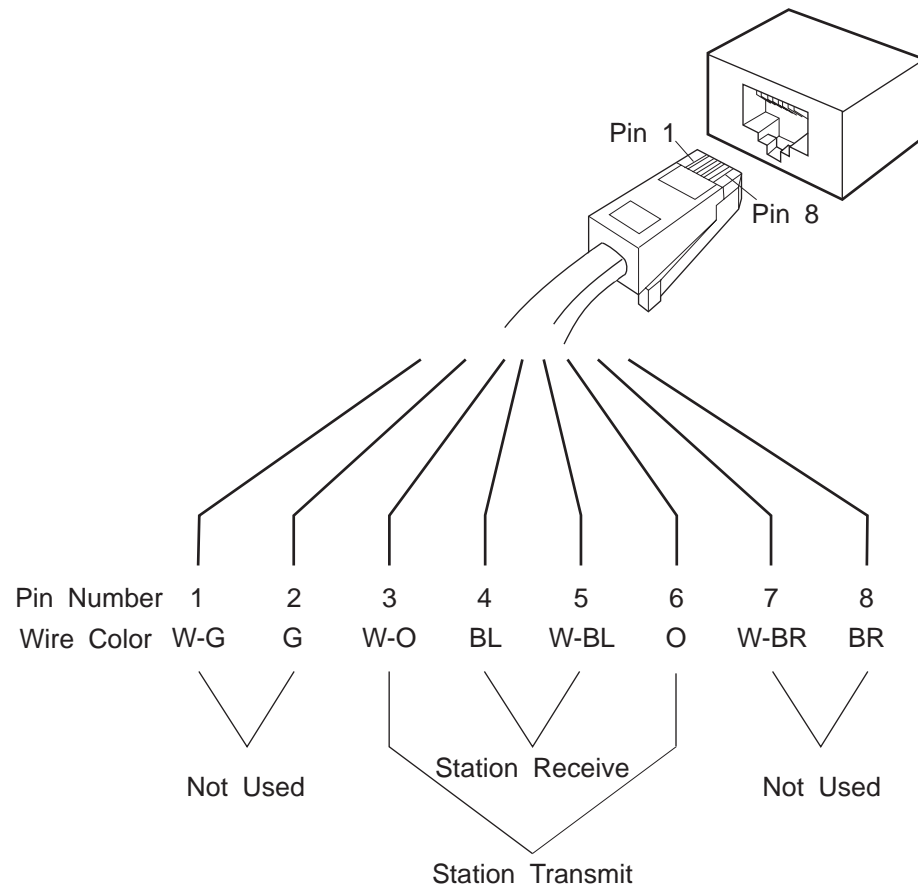

Figure 28. Twisted-Pair 8-Pin Connector
Refer to Figure 28 on page 95 for the pin layout of the 8-pin modular connector. Connection of the token-ring UTP media filter to a token-ring MAU is via an attachment cable meeting the following specifications:
- 8-pin modular telephone plugs at each end (optional shielding) meeting or exceeding requirements for category 5 cable connections (refer to Figure 28 on page 95 for pin layout). If the cable and connector are shielded, the cable shield must terminate on the connector shield. Note that the connector pins must not be used to terminate a cable shield.
Attaching cables must use the 802.5 standard pin layout. Cables must be terminated with an 8-pin jack. Figure 28 illustrates the proper pin configuration for the cable from the rear.